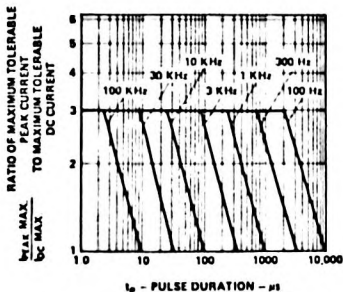

Figure 5. Maximum Tolerable Peak Current vs. Pulse Duration. ($I_{DC} \text{ MAX}$ as per MAX Ratings)
- See Figure 5 (Red/Orange), 10 (Yellow) or 15 (Green/Emerald Green) to establish pulsed operating conditions.